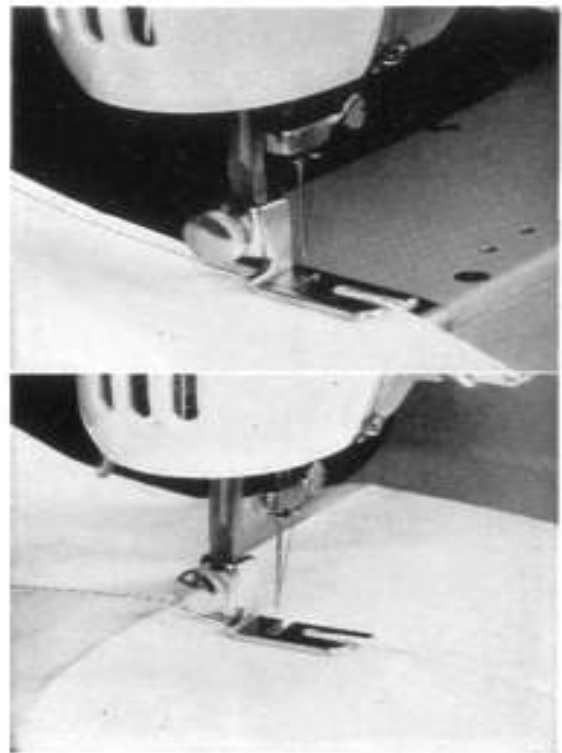

Fig. 35
7. Place the fabric under the Foot using the long toe as a guide. See Fig. 35.
8. Flatten out fabric, keeping the "right" sides down with the edge of the fabric upright as shown in Fig. 35.